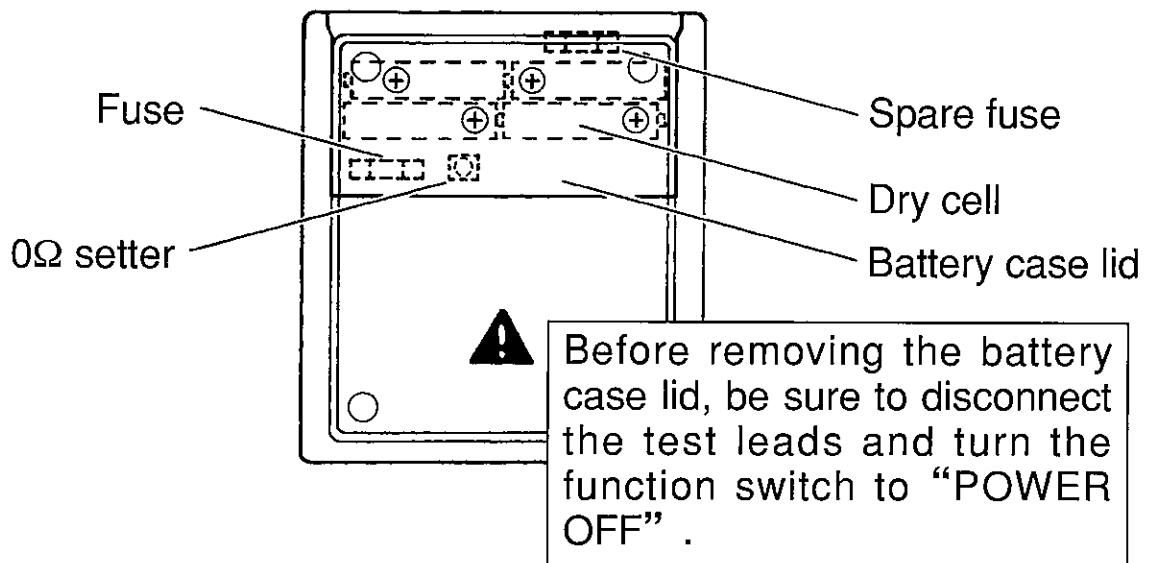

Fig. 6 Layout of Dry Cells and Fuses
- 0Ω setter(Refer to Fig. 6 in [16] MAINTENANCE) This tester employs the constant voltage method for measurement of resistance and there is no need of 0Ω adjustment for normal measurement.
15-1 Replacement of dry cells (Refer to Fig. 6):
15-2 Replacement of fuses (Refer to Fig. 6):